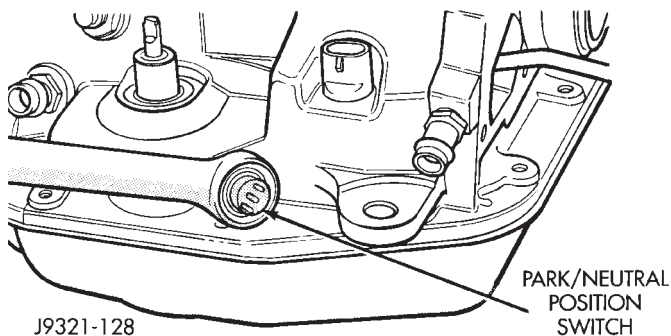

Fig. 12 Park/Neutral Position Switch Removal/Installation
(13) Remove park/neutral position switch (Fig. 12). If switch gasket is in good condition, retain gasket and keep it with switch.